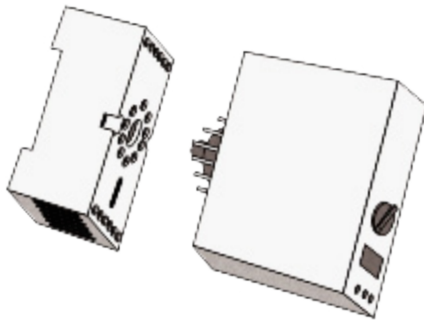

Figure 20: 11 Pin Socket For Photoeye Amplifier
2. Plug the photo eye amplifier into the 11-pin socket. See figure 20